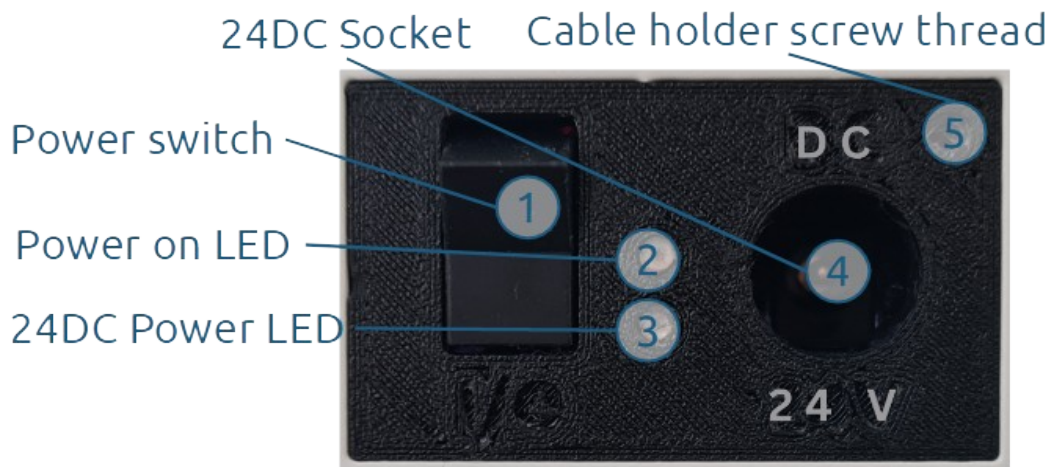

Figure 5: Power panel
Figure 5 shows the elements of the power panel.
1. Power on the device with the *power switch* located at the rear of the device (see Figure 5; page 11).